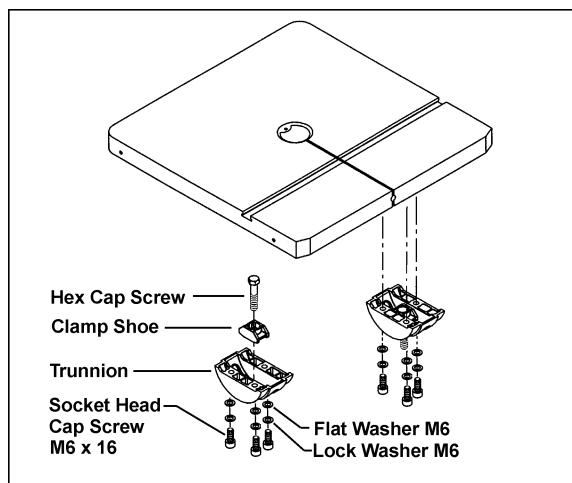

Figure 3
11. The trunnion clamp shoe and hex cap screw that were used previously, should be placed inside the new trunnions (Figure 3).
12. Mount the two trunnions to the bottom of the table, using three M6 x 16 socket head cap screws, M6 lock washers, and M6 flat washers, in each trunnion. See Figure 3.